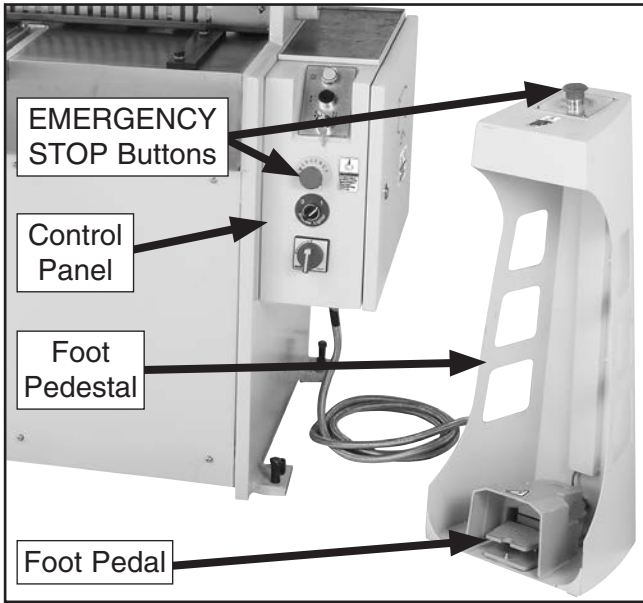

Figure 23. EMERGENCY STOP button locations.
2. Press EMERGENCY STOP buttons on control panel and foot pedestal (see **Figure 23**).
- Turn shear switch to right. Press foot pedal one time (see **Figure 23** on **Page 23**) and release. Motor should engage shear and operate smoothly for one full cycle.